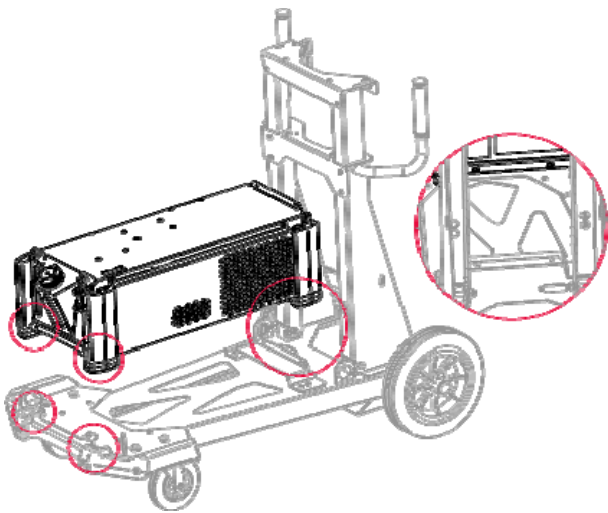

Figure 1
- Place the cooler on a four-wheeled cart (Figure 1).